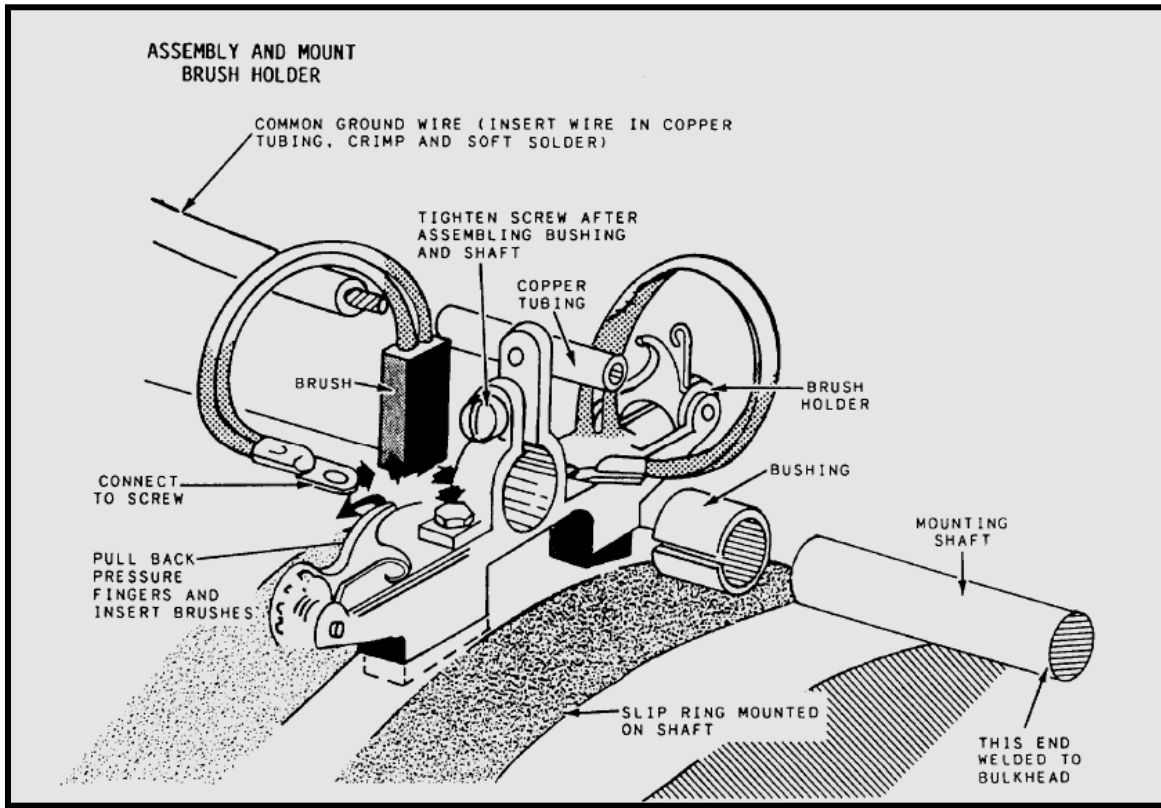

**Figure 11-8.— Reference electrode assembly.**
**Reference Electrode.**— The reference electrode (fig. 11-8) is a silver/silver chloride type constructed of a silver mesh screen that has been treated with silver chloride. It is bolted to the exterior hull of the ship and is insulated from the ship by a polyvinyl chloride holder. A stuffing tube is used to pass the cable from the electrode through the hull to the controller. The controller measures the potential of the hull versus the reference electrode, and signals the power supply to increase or decrease current output as required. This is to reduce the potential difference between the hull potential and the preset desired potential. Two reference electrodes are installed for each controller. One reference electrode is selected for the primary control; the other reference electrode serves as an auxiliary to verify operation of the controlling cell and serves as a backup if failure of the primary cell occurs. Reference electrodes are generally located on each side of the hull, about halfway between the anode sites. Reference electrodes are usually replaced approximately every 10 to 12 years.